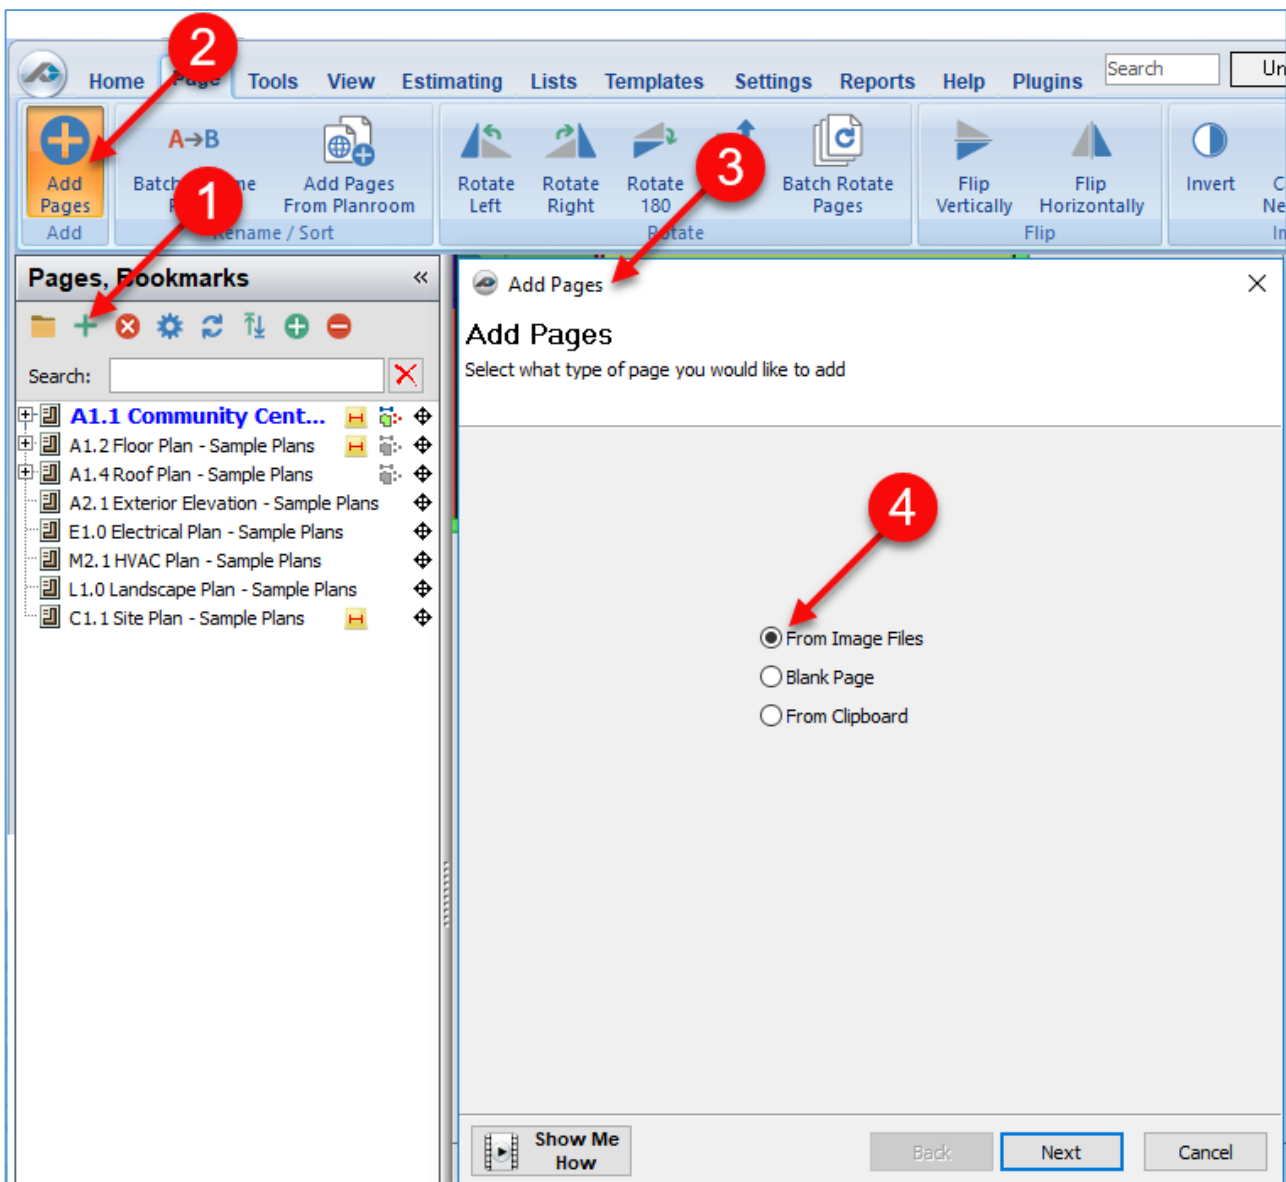

Figure 6-A
4. If you want to select a new page from existing image files, click on **From Image Files** and click on **Next**. This opens the **Image Files** window (Fig. 6-B).
5. Click on **Browse** to locate the folder with the image files in the **Browse for Folder** (Fig. 6-B).